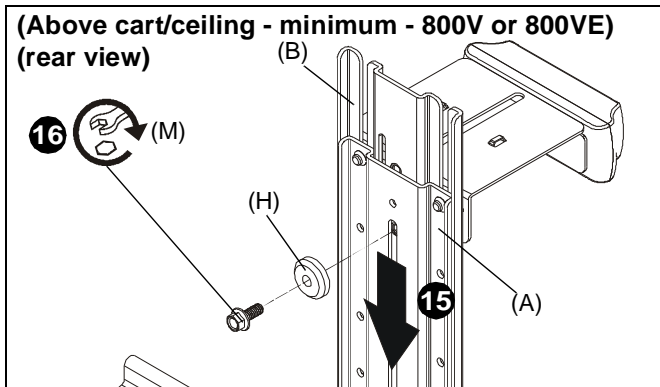

Figure 31
**NOTE:** For minimum extension on the FCA800VE model, the extender box holder (D) may be installed as part of the installation of the camera mount to the main bracket. Skip Step 16 if mounting the FCA800VE to minimum extension and installing the extender box holder (D).
15. (For **minimum extension**) Slide upright bracket (A) behind main bracket (B). (See Figure 31)
16. (For **minimum extension - 800V or VE**) Use 1/4-20 x 5/8" hex head flange bolt (M) and center washer (H) to secure upright bracket (A) to main bracket (B). (See Figure 31)